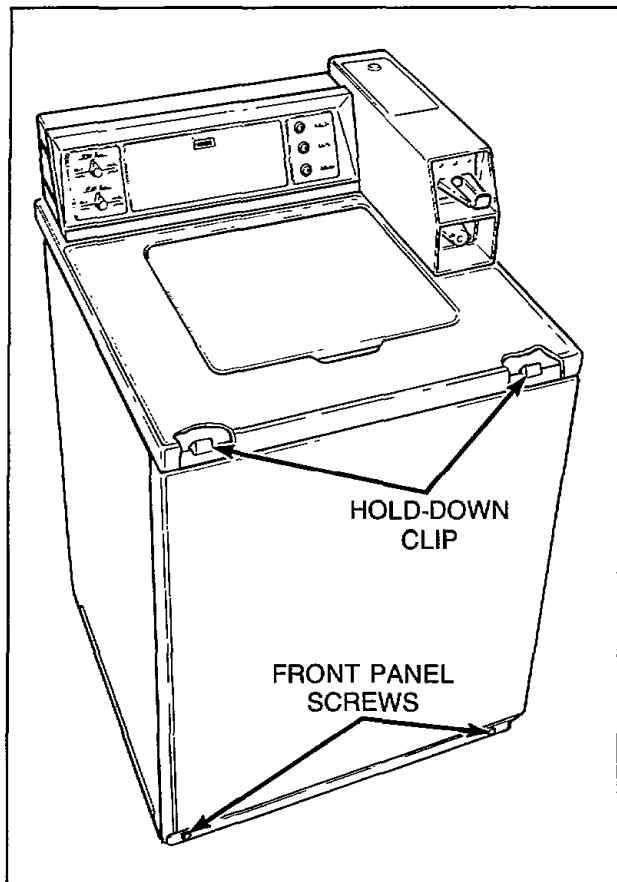

Figure 14
### 13. FRONT PANEL (Refer to Figure 14)
- Remove two screws from bottom edge of front panel, *Figure 14*.
- Pull bottom of panel away from washer until hold-down clips (located on top flange of panel) disengage from slots in cabinet top, *Figure 14*.
- a. Remove two screws from bottom edge of front panel, *Figure 14*.
- b. Pull bottom of panel away from washer until hold-down clips (located on top flange of panel) disengage from slots in cabinet top, *Figure 14*.